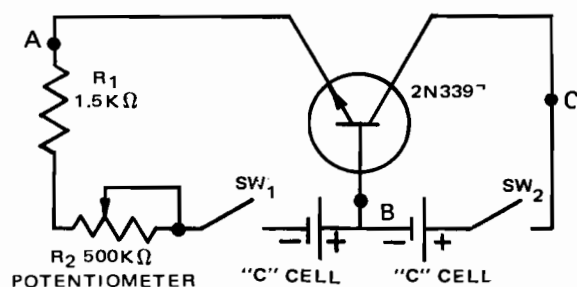

Fig. 16-1-1
1. Connect transistor circuit as in Fig. 16-1-1. Test points A, B, and C are milliammeter connection points. To insert this meter at any point, the circuit must be broken. Then, meter is placed in series with the two connections. Polarity of meter is also important to get an upscale deflection.
2. If the value of R₁ in Fig. 16-1-1 were doubled, how would this effect I_C? _____